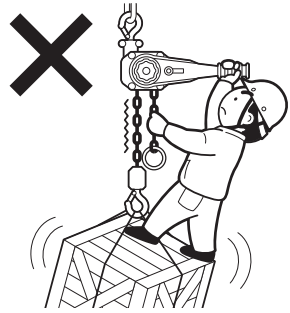
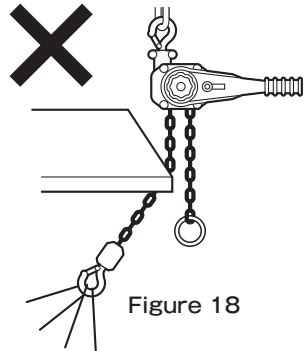
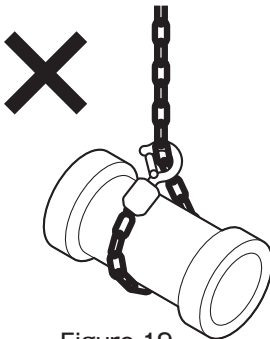

Figure 17
Figure 18
Figure 19
- (25) Do not allow anyone to ride on suspended loads. Never use the lever hoist for human transport purposes. (Figure 17)
- (26) Never reverse a suspended load without sufficient expertise in doing so.
- (27) Do not suspend excessive loads.
- (28) When maintaining the load in a suspended condition for a short period of time, be sure to leave the switch pawls in the lifting position.
- (29) Never use the hoist or the hook to work as a fulcrum.
- (30) Do not use damaged or deformed top/bottom hooks.
- (31) Never use this equipment if the load chain is deformed or damaged.
- (32) Do not operate the equipment with the load chain lodged against a steel plate or other corners. (Figure 18)
- (33) Do not operate the load chain by any means other than human power (do not use any tools or objects on the controls).
- (34) Do not apply abrupt force to the load chain during idle operation.
- (35) Suspend slings properly onto the hook.
- (36) During lifting, temporarily pause winding once either the load chain or sling comes under tension.
- (37) Keep the lever hoist unit and load chain clean and free of sand and other debris.
- (38) Make sure the lifting height is sufficient for the intended work.
- (39) Make sure the load chain is sufficiently lubricated.
- (40) Do not modify this equipment in any way.
- (41) Do not use with the load chain wrapped around the load. (Figure 19)